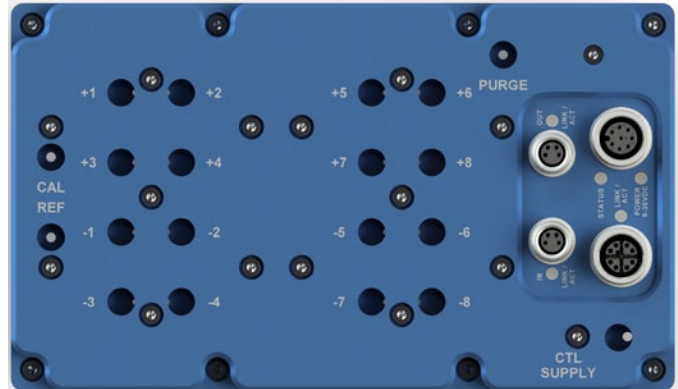

FIGURE 2.3 - DSA5000 TRUE DIFFERENTIAL 8DPx TOP VIEW
For true differential pressure measurement applications, the DSA5000 can be configured with eight (8) true differential pressure transducers. They are arranged into two (2) groups of four (4) transducers. Each transducer will have a discrete input for the positive and negative side of the transducer for a true differential pressure measurement between two points. Like the DSA5000 Standard 16Px, each group of transducers has a dedicated calibration valve that allows the input pressures to be blocked off during any calibration, including a zero offset calibration (CALZ). In calibrate mode, the reference ports will all be manifolded to a single reference port. Figure 2.3 depicts the top panel of a DSA5000 True Differential 8DPx module.